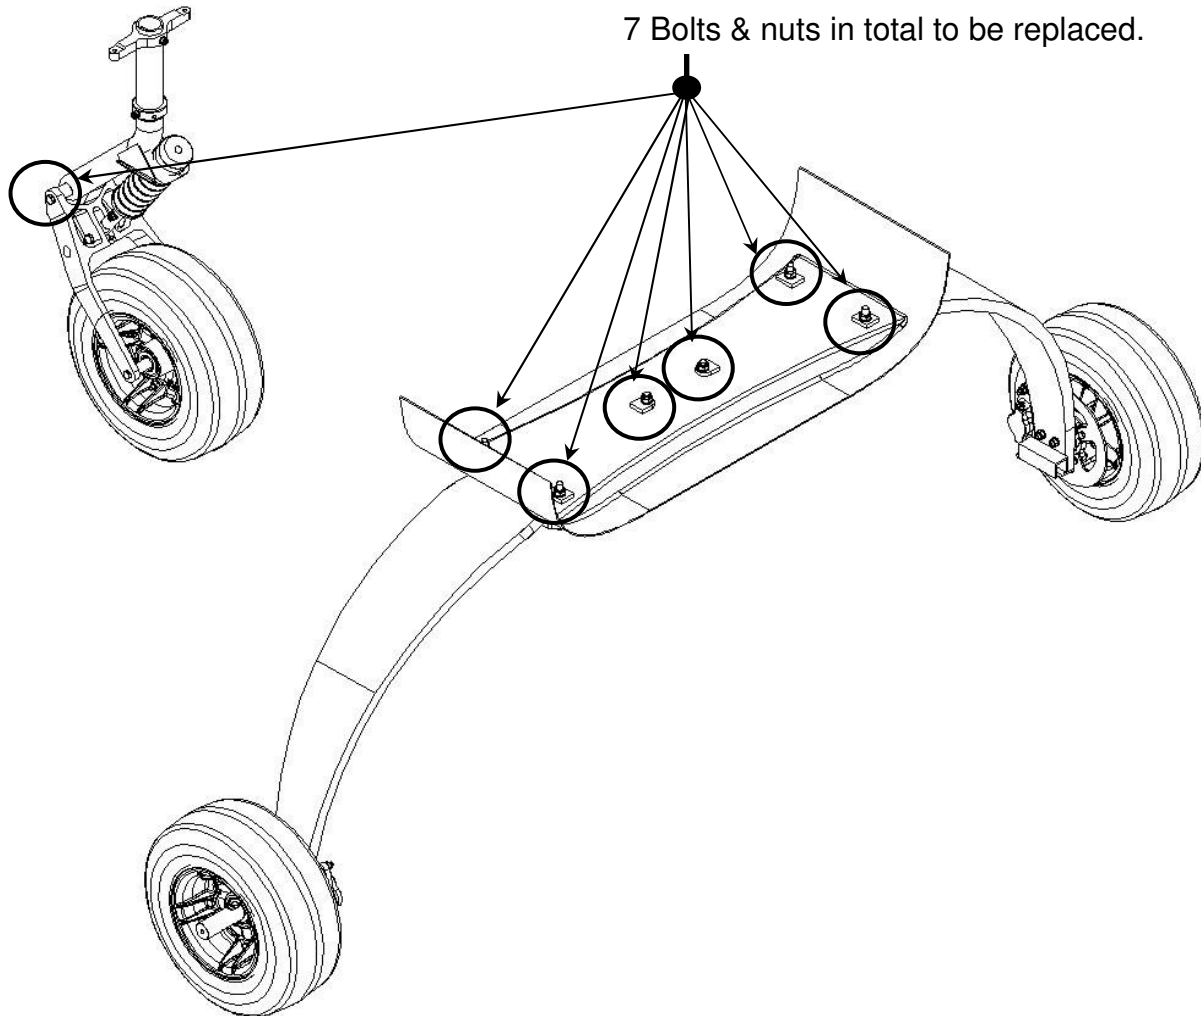

Figure 1 – Undercarriage
- Bolts and nuts used in the positions shown in Figure 1 are to be replaced after 500 hours Time In Service (TIS).
- Figure 1 shows a general schematic of a tricycle undercarriage for a Jabiru Aircraft. The bolts which are to be replaced are indicated. While there are detail differences between Jabiru models all have the same general layout and have the same critical 7 bolts which are to be replaced.